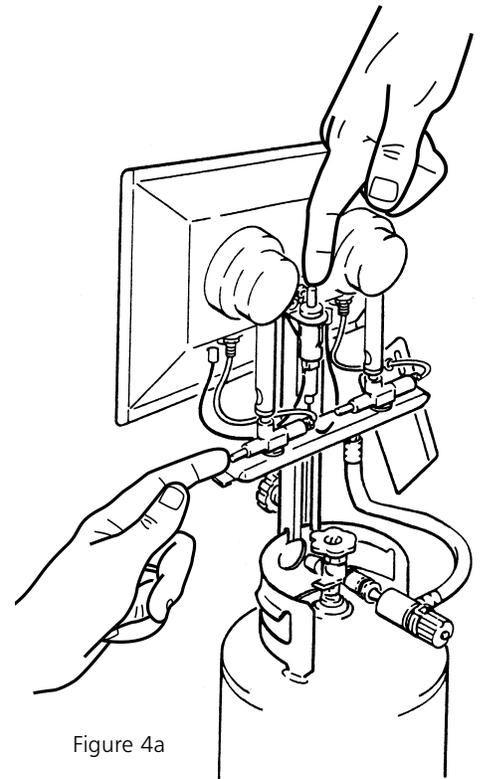

Figure 4a
- E. To light a burner, MH24TS Model, push in valve button on Safety Shutoff Valve and at the same time push down on "Sparklite" Igniter button. Repeat push down of "Sparklite" Igniter button until burner ignites. After burner is lit, continue to hold valve button in for 30 seconds, then release the button slowly. Repeat step "E" for each burner of the MH24TS Heater. See fig. 4a.